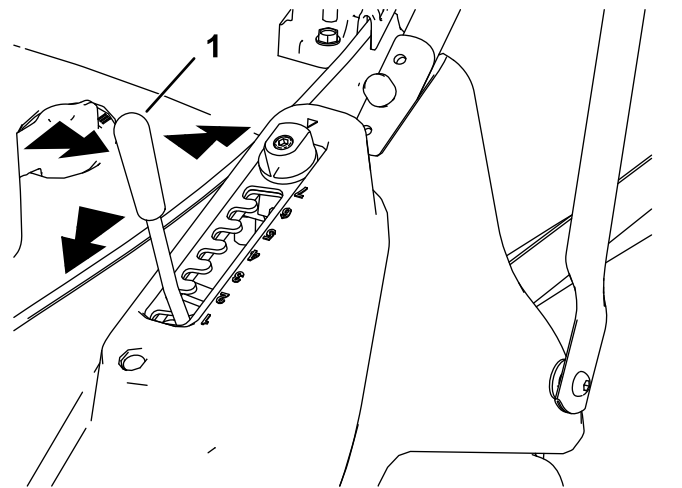

Figure 11
1. Grip the height-of-cut lever and pull sideways to disengage it from the locking notch (Figure 11).
2. Push the lever forward to lower or pull it backward to raise the height of cut (Figure 11).
3. Release the lever at the required position and ensure that it locks firmly into 1 of the 7 setting notches (Figure 11).